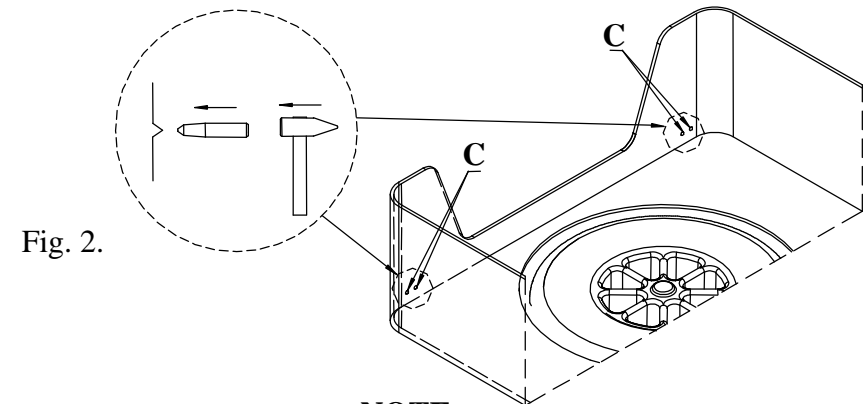

Fig. 2.
2. Place fish-plates (pos. 4 and 5) on trunk's floor. Holes A and B are placed on the left and right side trunk's floor, over left and right chassis member. They are marked as dents. Find them using fish-plates (pos. 4 and 5). Then take out fish-plates and drill trunk's floor using bit  $\varnothing 17\text{mm}$  in points A and B.
3. Place again fish-plates (pos. 4 and 5). Using them find points C on rear wall of he trunk. They are marked by a car producer as dents.
4. Remove fish-plates and knock out dents (see figure 2). Resultant holes enlarge using bit  $\varnothing 12\text{mm}$ . Drill straight through rear wall of the trunk.
5. Place fish-plates (pos. 4 and 5) again together with distance sleeves (pos. 6, 7 and 8) and bolts M10x110mm (pos. 11) and M10x100mm (pos. 12) as shown on the figure. **NOTE!! Sleeves have different length!** Place plates (pos. 9) from outside of rear trunk's wall and fix it using bolts M10x35mm (pos. 13)
6. Place main bar of the towbar (pos. 1) together with square washer (pos. 10) and fix it through holes A and B using five nuts M10 and washers  $\varnothing 25 \times \varnothing 11 \times 3\text{mm}$  (pos.15).
7. Fix body of the automat and place tow-ball according to supplied instruction. Note! Remember to place socket plate (pos. 3) as shown on the drawing 1.